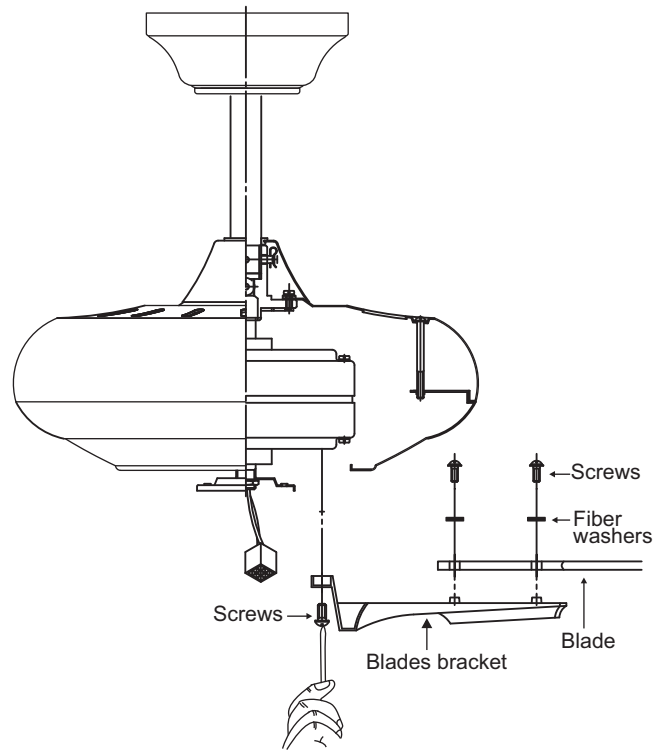

Figure 17
Step 1. Attach the blade to the blade bracket using the screws and fiber washers as shown in Figure 17. Start screw into bracket. Repeat for the two remaining screws.
Step 3. Fasten blade assembly to motor using the screws supplied. (Fig. 17)